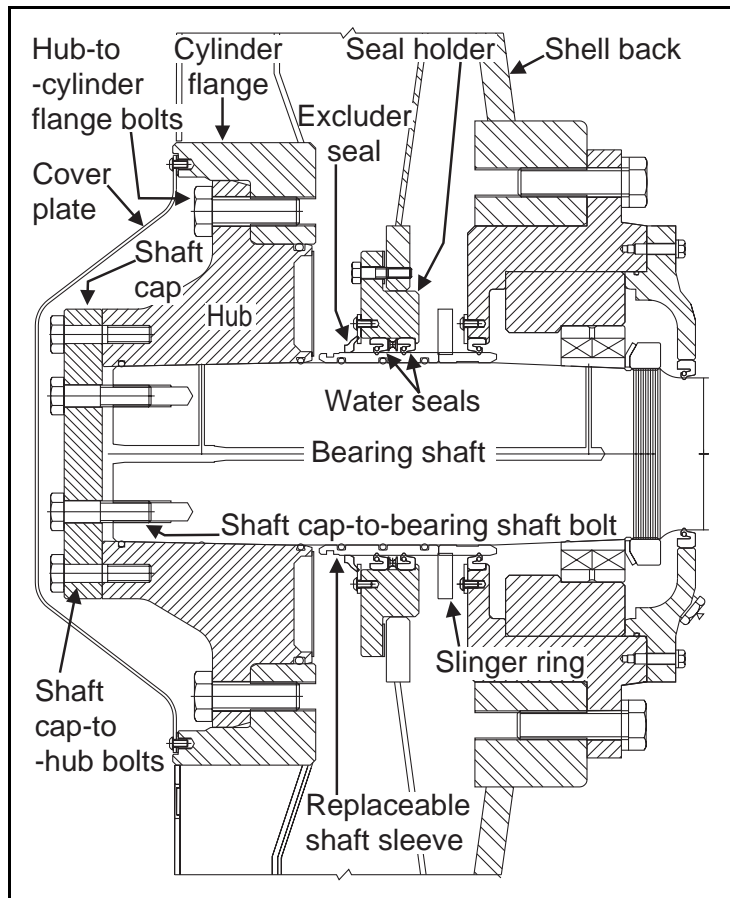
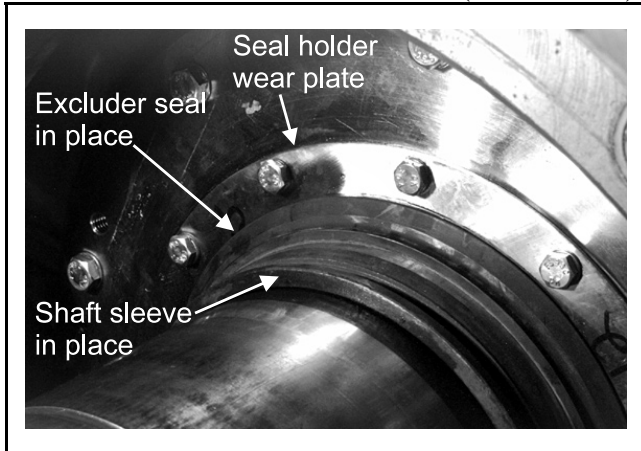

FIGURE 1 (MSSM0275AE)
FIGURE 9 (MSSM0275AE)
Preparations—Have the following items on hand before replacing water seals: seal removal kit KFBBSL72J2, and either Buna-N seal kit KFBBSH72J2 or Viton seal kit KFBBSV72J2. This procedure only covers replacing water seals; see MSSMA430AE for bearing removal information. Before beginning, study FIGURE 1 and read through this procedure in order to become familiar with the main bearing components and the seal replacement process.
3. Remove cover plate in the center of the cylinder (FIGURE 1).
1. With the hub supported in place by the *guide pins*, remove and discard the *excluder seal* (FIGURES 9 and 10).
- Clean the bearing shaft. Install the *o-rings* (FIGURE 14) in the new *shaft sleeve*, and the new *water seals* in the *seal holder* (FIGURE 1). If installing a new seal holder wear plate (FIGURE 9), completely coat the underside of the new wear plate liberally with silicon or a similar type gasket material, to ensure that air from the injection system does not leak from the back of the wear plate. Coat the *o-rings* and *water seals* with grease.
2. Install the new *excluder seal* flush against the *seal holder* as shown in FIGURE 9. Using Loctite[®] 404 (or a similar cyanoacrylate based adhesive), tack the base of the *excluder seal* to the *shaft sleeve* in four places.